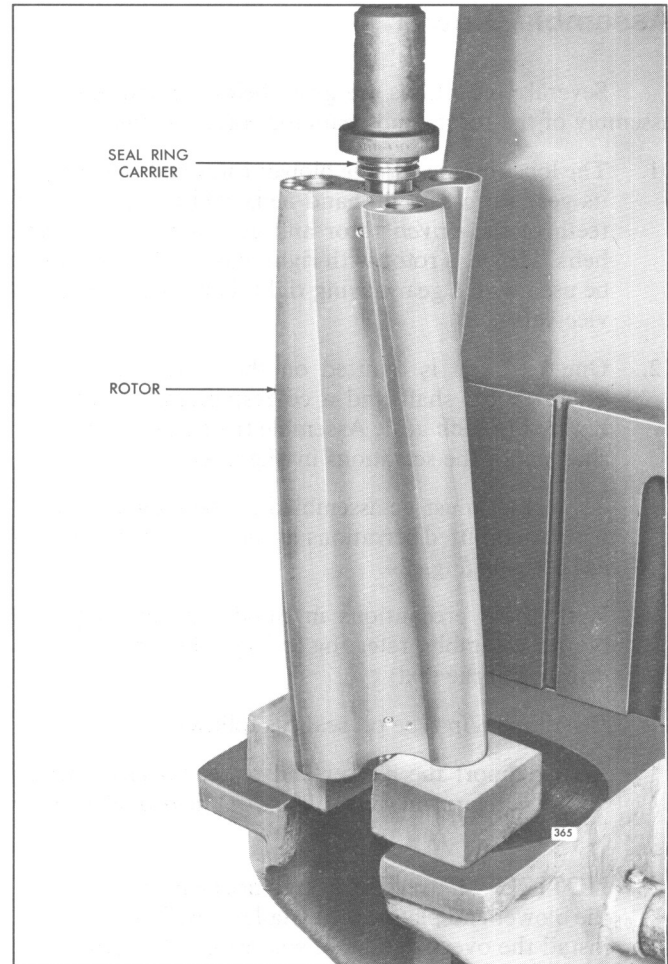

Fig. 15 - Installing Oil Seal Ring Carrier on Blower Rotor Shaft (V-92T Blowers) with Tool J 6270-4
- a. Support one of the rotor assemblies on wood blocks on the bed of an arbor press (Fig. 15).